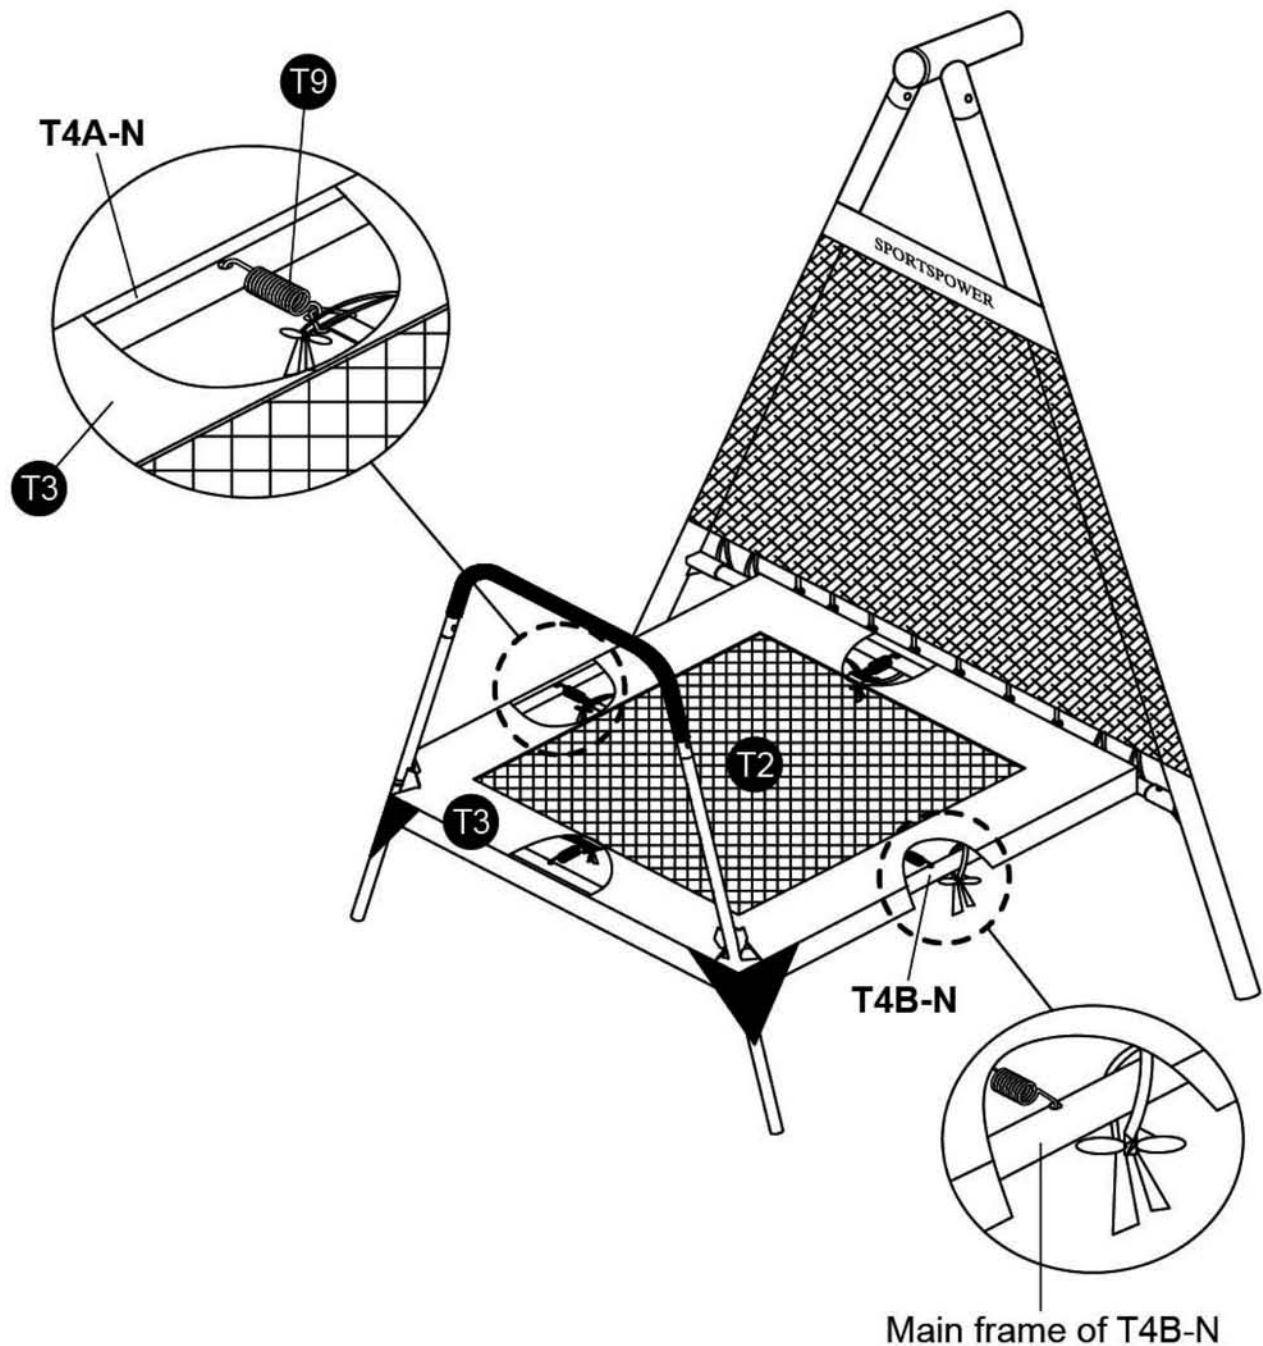

FIGURE 10
- Wrap all outer elastic straps around jump frame and tie in the same manner as shown in FIGURE 10.